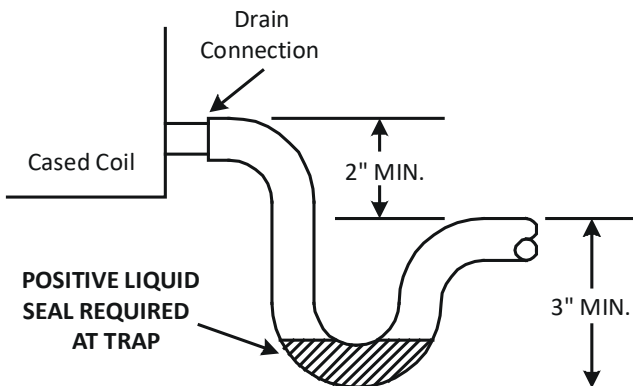

Figure 13
- Insulate drain lines located inside the building or above a finished living space to prevent sweating. The installation must include a "P" style trap that is located as close as is practical to the evaporator coil. See Figure 13 for details of a typical condensate line "P" trap.
- NOTE:** Units operating in high static pressure applications may require a deeper field constructed "P" style trap than is shown in Figure 13 to allow proper drainage and prevent condensate overflow.